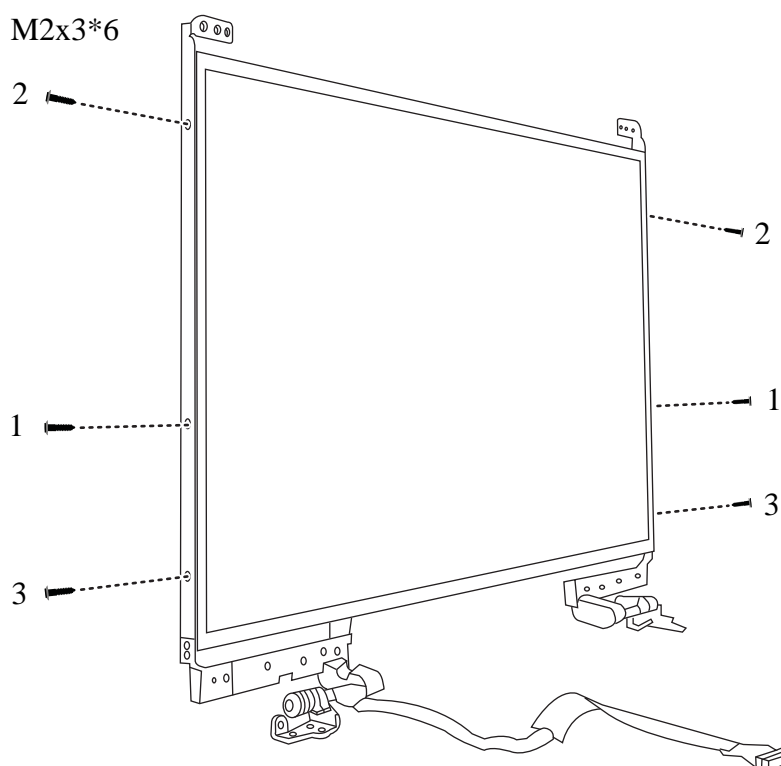

Figure 4.43 Installing the LCD Hinge Assembly
4. Seat the LCD hinge assembly in the correct position beside the LCD panel and secure it with six M2x3 screws according to the sequence indicated in Figure 4.43.